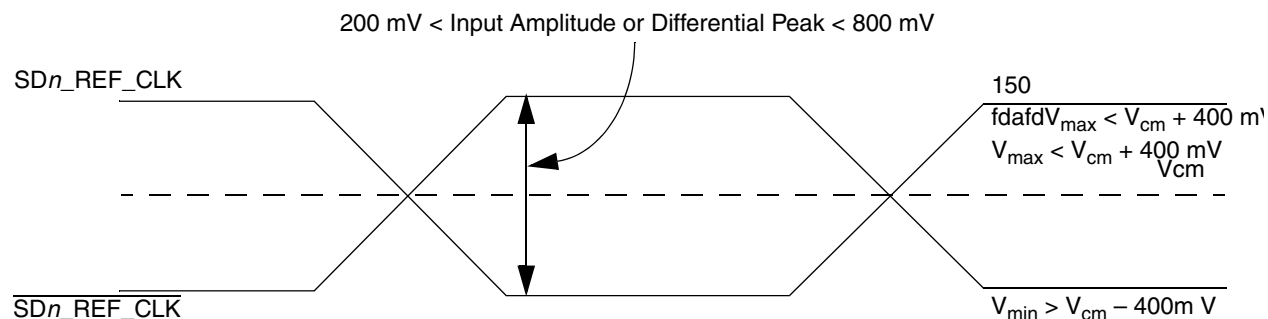

Figure 51. Differential Reference Clock Input DC Requirements (External AC-Coupled)
- For **external AC-coupled** connection, there is no common mode voltage requirement for the clock driver. Since the external AC-coupling capacitor blocks the DC level, the clock driver and the SerDes reference clock receiver operate in different command mode voltages. The SerDes reference clock receiver in this connection scheme has its common mode voltage set to SGND_SRDSn. Each signal wire of the differential inputs is allowed to swing below and above the command mode voltage (SGND_SRDSn). Figure 51 shows the SerDes reference clock input requirement for AC-coupled connection scheme.